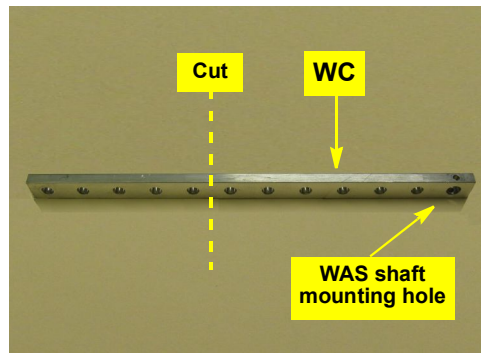

Figure 1b: WAS arm preparation
- b. Cut five holes off the WAS arm **WC** at the opposite end from the WAS shaft mounting hole (Figure 1b).